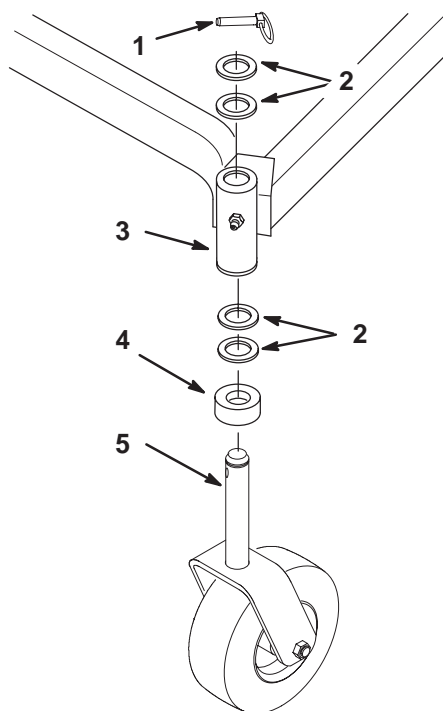

Figure 2
1. Place the spacer and 2 thrust washers onto the caster wheel fork (Fig. 2).
2. Insert the caster wheel fork into the carrier frame mounting tube (Fig. 2).
3. Install 2 thrust washers onto the caster wheel fork and then secure with a locking pin (Fig. 2).